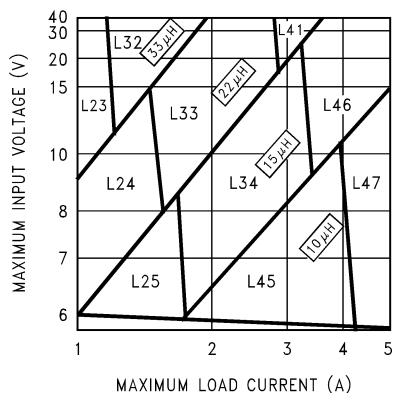
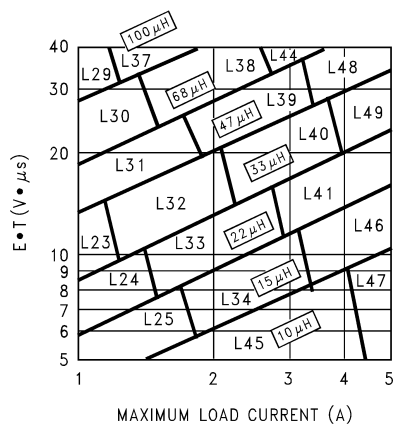

Figure 18. LM2679-3.3
Figure 21. LM2679-ADJ
Step 3: Determine the inductor required by using one of the four nomographs, Figure 18 through Figure 21. Table 1 provides a specific manufacturer and part number for the inductor.
Step 5: Determine an input capacitor from Table 8 and Table 9 for fixed output voltage applications. Use Table 3 and Table 4 to find the specific capacitor type. For adjustable output circuits select a capacitor from Table 3 and Table 4 with a sufficient working voltage (WV) rating greater than $V_{in\text{ max}}$, and an rms current rating greater than one-half the maximum load current (2 or more capacitors in parallel may be required).
Step 3: Use the nomograph for the 3.3V device, Figure 18. The intersection of the 16V horizontal line ($V_{in\ max}$) and the 4A vertical line ($I_{load\ max}$) indicates that L46, a 15 μ H inductor, is required.
Step 3: To use the nomograph for the adjustable device, Figure 21, requires a calculation of the inductor Volt•microsecond constant ($E \cdot T$ expressed in $V \cdot \mu S$) from the following formula:
Using Figure 21, the intersection of 27V• μS horizontally and the 3.5A vertical line ($I_{load\ max}$) indicates that L48, a 47 μH inductor, or L49, a 33 μH inductor could be used. Either inductor will be suitable, but for this example selecting the larger inductance will result in lower ripple current.
When using the adjustable device in low voltage applications (less than 3V output), if the nomograph, Figure 21, selects an inductance of 22μH or less, Table 12 and Table 13 do not provide an output capacitor solution. With these conditions the number of output capacitors required for stable operation becomes impractical. It is recommended to use either a 33μH or 47μH inductor and the output capacitors from Table 12 and Table 13.